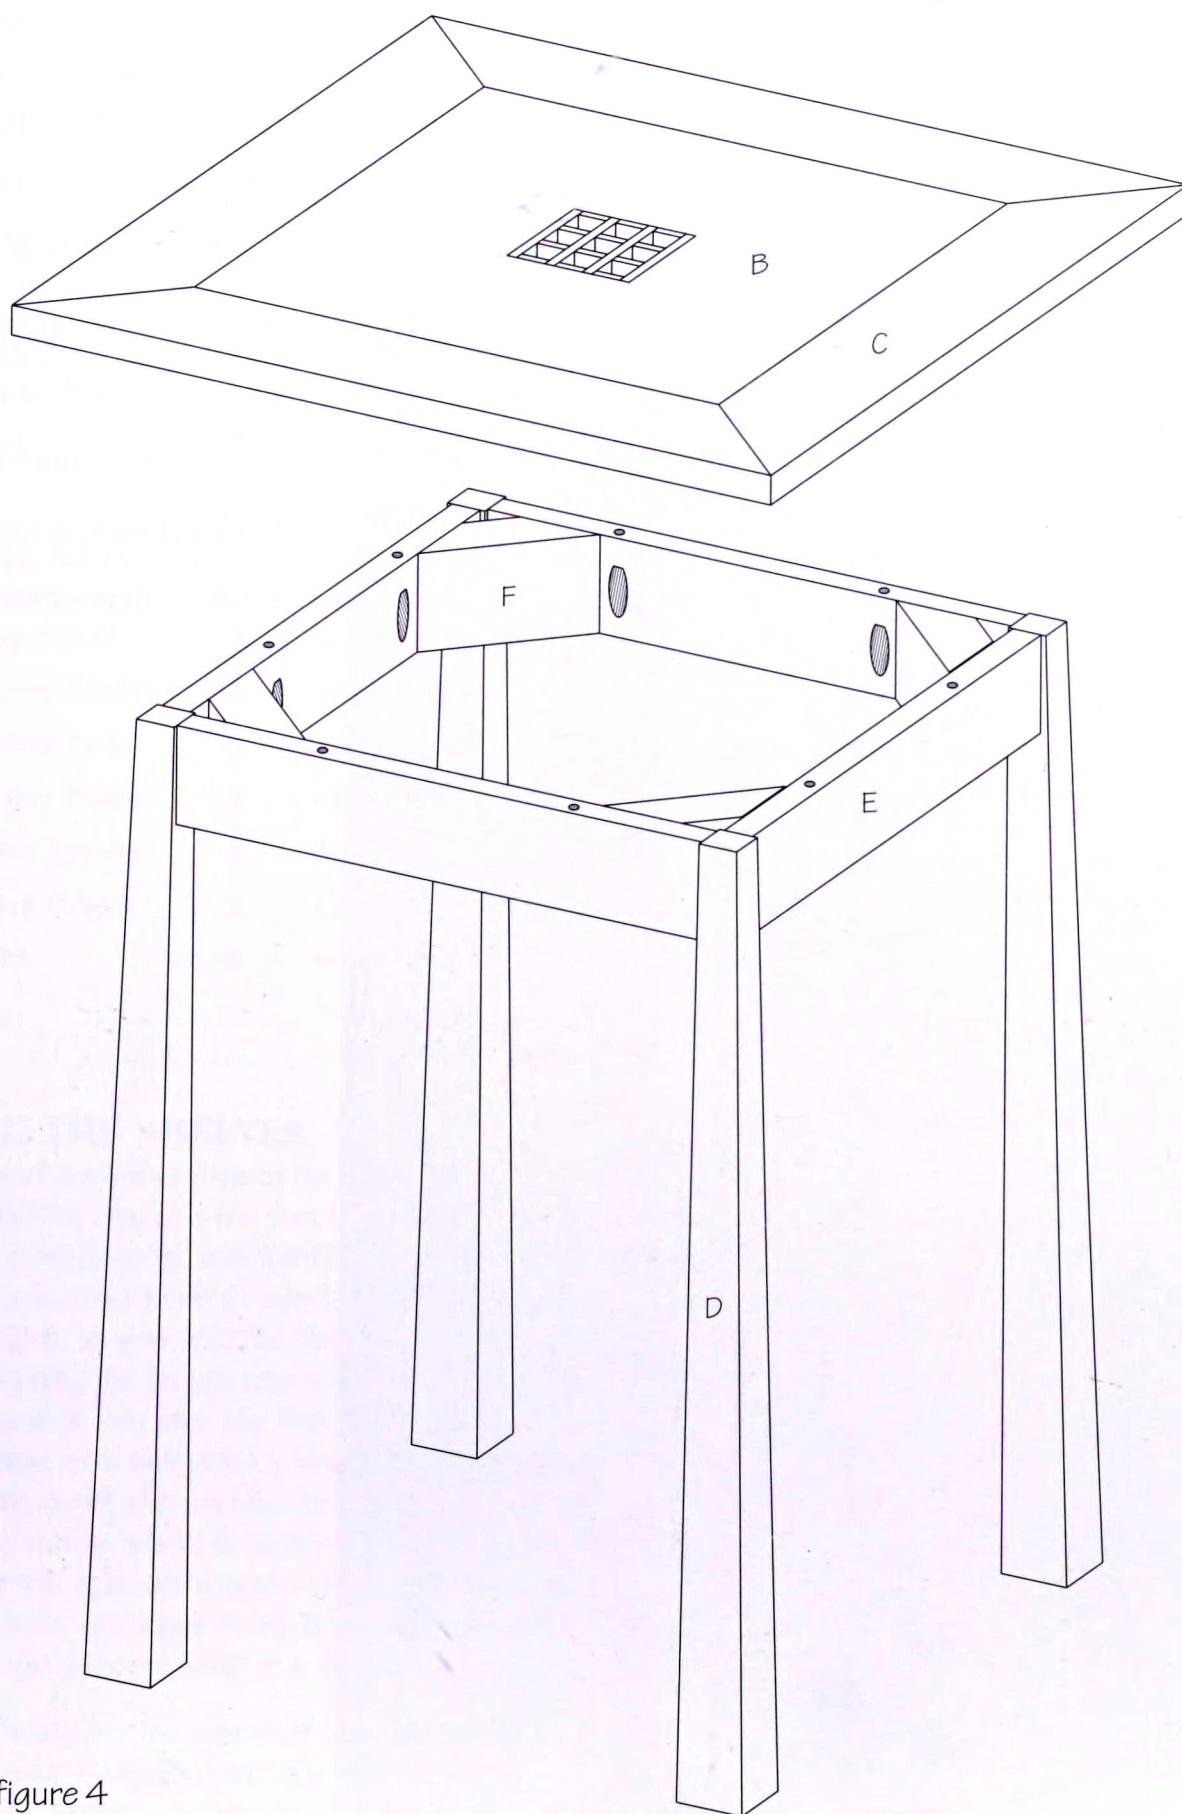

figure 4
1. Prepare maple stock for the legs (D), and cut the legs to length using the drop stop on your table saw (see Drop Stops, Jigs, and Fixtures on page 12).
2. These “bell-bottom” legs taper from 1" square at the top to $1\frac{1}{4}$ " square at the bottom. Their inside faces remain vertical. Refer to figure 4. Make a simple tapering jig from scrap plywood, such as that pictured and described on page 80. On a piece of plywood about 4" wide and 21" long, measure in from one edge $1\frac{1}{4}$ " and mark at one end. Beginning $19\frac{1}{4}$ " from that end, mark 1" from the same edge. Lay a framing square on the plywood with its long arm aligned with the first mark, its corner at the second mark and its short arm toward the near edge (1" away). Trace around the square, and cut to the line with the band saw. Taper two sides of each leg with this jig.
3. Using the drop stop, cut the aprons (E) to 14" long. Mark their good faces.
1. Tilt the blade of your table saw to 45°, and use a drop stop to cut the mitered ends of the corner braces (F). They are mitered across their thickness, as shown in figure 4.